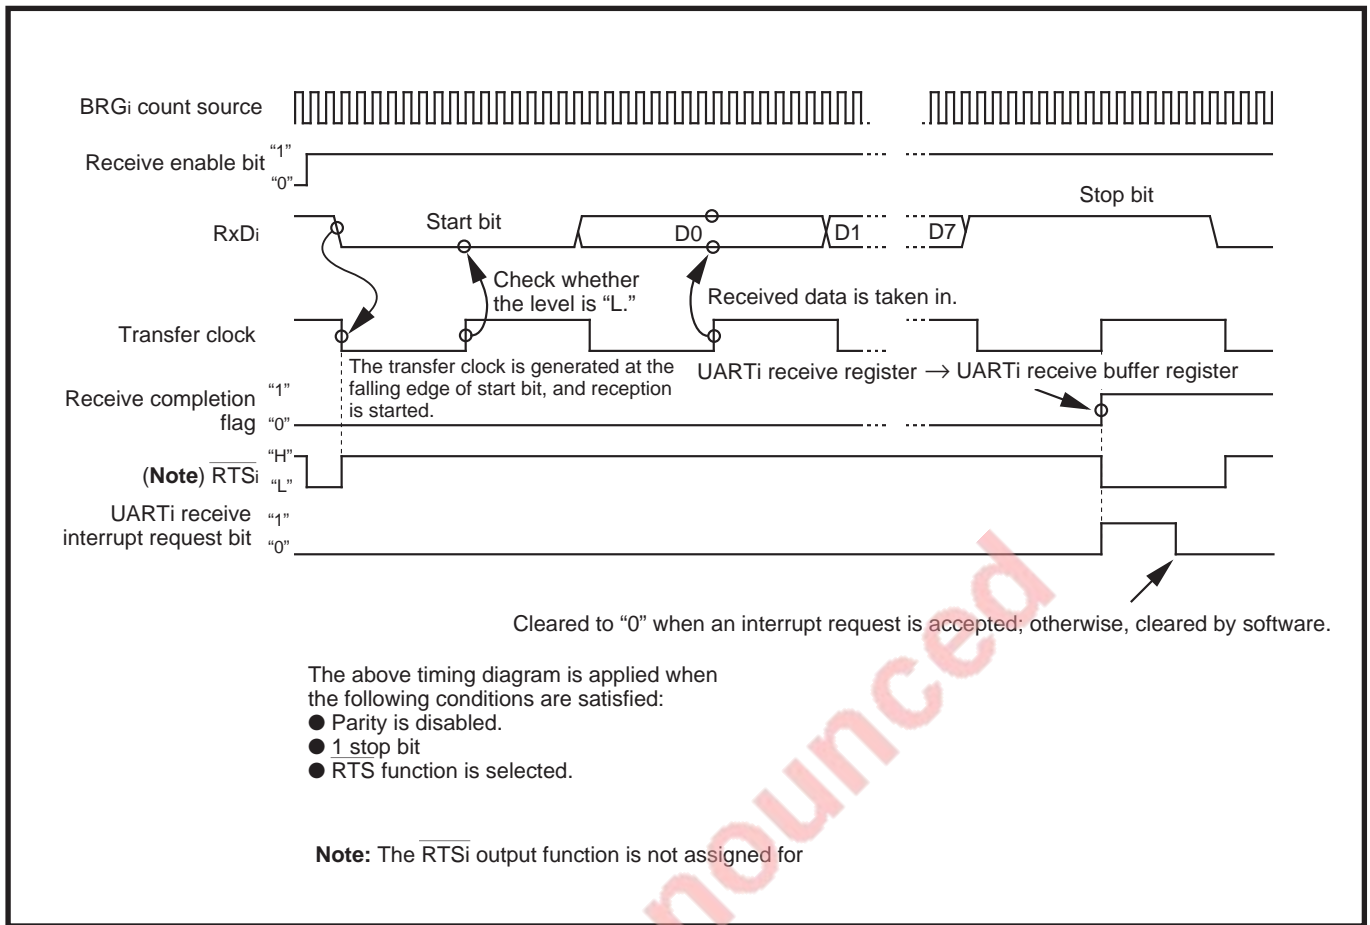

Fig. 8.4.12 Example of receive timing when data is transferred in 8 bits (When parity is disabled and one stop bit)
- ① The signal which is input from the Rx_{D_i} pin is taken in the most significant bit of the UART_i receive register synchronously with the transfer clock’s rising edge.
- ② The contents of UART_i receive register is shifted by 1 bit to the right.
- ③ Operations ① and ② are repeated at each transfer clock’s rising edge.
- ④ When a set of data is prepared, in other words, when shifted several times depending on the specified data format, the UART_i receive register’s contents is transferred to the UART_i receive buffer register.
- ⑤ Simultaneously with ④, the receive completion flag is set to “1.” Furthermore, a UART_i receive interrupt request occurs and the interrupt request bit is set to “1.”
The receive completion flag is cleared to “0” when the low-order of the UART_i receive buffer register is read out. The $\overline{\text{RTSi}}$ pin’s output level becomes “L” simultaneously with ⑤ (when $\overline{\text{RTS}}$ function is selected). Figure 8.4.12 shows an example of receive timing when transfer data has a length of 8 bits.